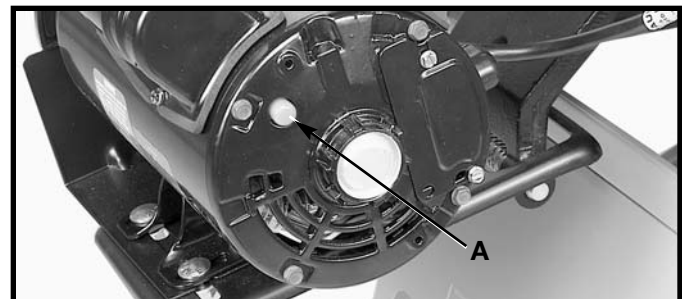

Fig. 40
Some saws are equipped with motors that do not have a resettable overload. However, if your motor is equipped with a resettable overload and the motor shuts off or fails to start due to overloading, move the switch to the "OFF" position and let the motor cool three to five minutes. After cooling for three to five minutes, push the reset button (A), Fig. 40. The saw can then be turned on again in the usual manner. Note: Overloading occurs due to cutting stock too fast, using a dull blade, using the saw beyond its capacity, low voltage, and etc.